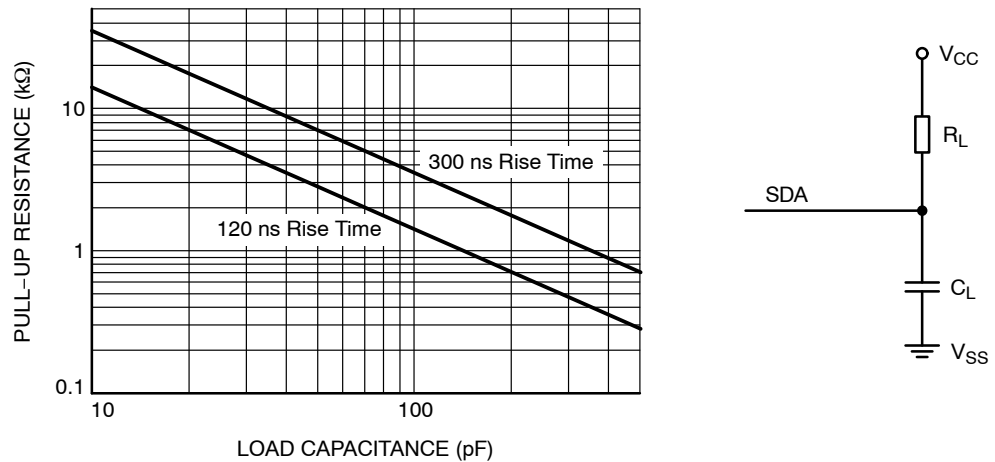

Figure 2. Pull-up Resistance vs. Load Capacitance
4. The device is able to handle R_L values corresponding to the specified rise time (see Figure 2).